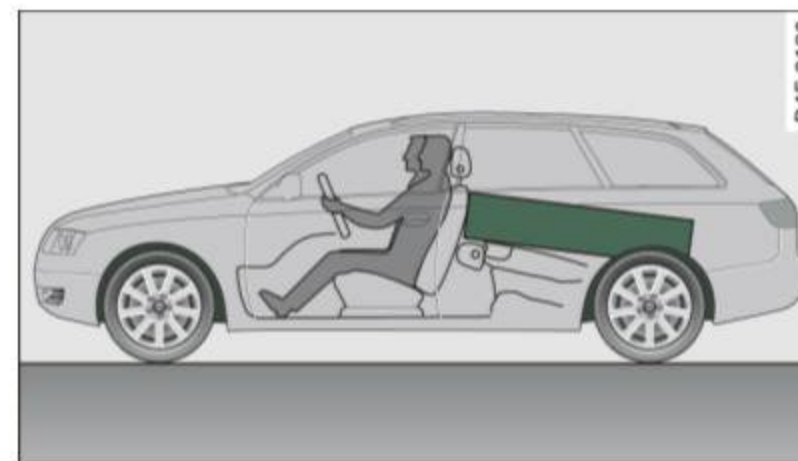

Fig. 77 Place heavy objects as far forward as possible.
- Place heavy objects as far forward as possible ⇒ fig. 77.